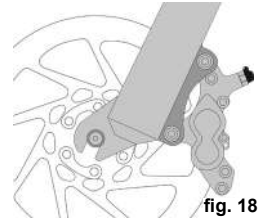
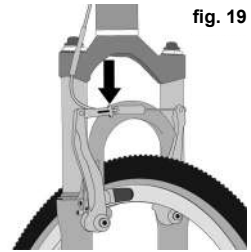

fig. 18
fig. 19
1. If your eBike has rim brakes, disengage the brake's quick-release mechanism to increase the clearance between the tire and the brake pads. **Refer to Page 57, Section 11: "Tech", subsection C: "Brakes", figs. 18 through 22.**
1. If you have a multi-speed eBike with a derailleur gear system, shift the rear derailleur to high gear (the smallest, outermost rear sprocket). If you have an internal gear rear hub, do not attempt to remove the rear wheel. Consult your authorized retailer or the hub manufacturer's instructions for additional information. If you have a single-speed eBike with rim or disk brake, go to step (4) below.
2. If your eBike has rim brakes, disengage the brake's quick-release mechanism to increase the clearance between the wheel rim and the brake pads. **Refer to Page 57, Section 11: "Tech", subsection C: "Brakes", figs. 18 through 22.**
3. Some bicycle brakes, such as disc brakes (fig. 18) and linear-pull brakes (fig. 19), are extremely powerful. Take extra care in becoming familiar with these brakes and exercise particular care when using them.
Most rim brakes have some form of quick-release mechanism to allow the brake pads to clear the tire when a wheel is removed or reinstalled. When the brake quick-release is in the open position, the brakes are inoperative. Ask your authorized retailer to make sure that you understand the way the brake quick-release works on your eBike (see figs. 19, 20, 21 & 22) and check each time to make sure both brakes work correctly before you get on the eBike.